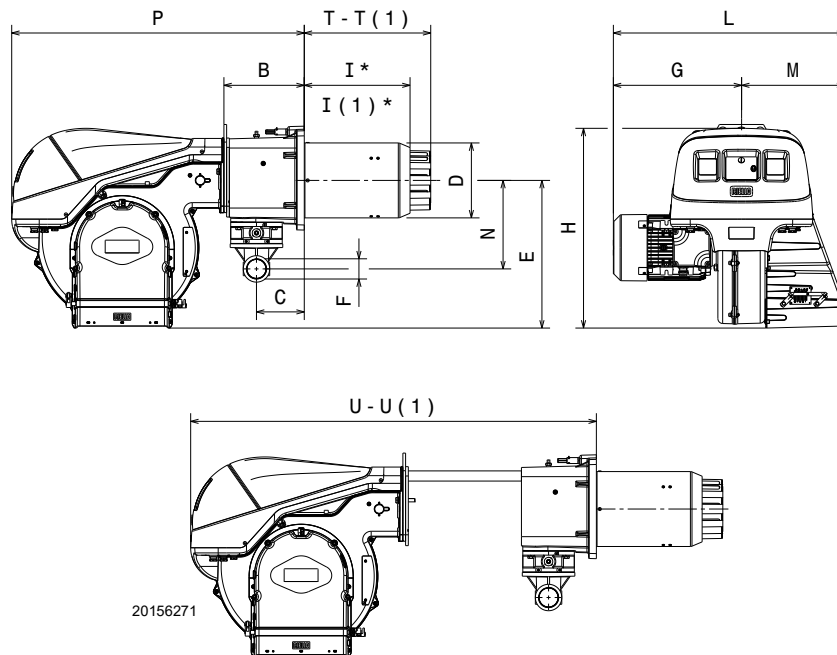

Fig. 1
The dimensions of the burner are shown in Fig. 1.
* The maximum depth of the boiler door is referred to dimension "l" (Fig. 1 at page 9).